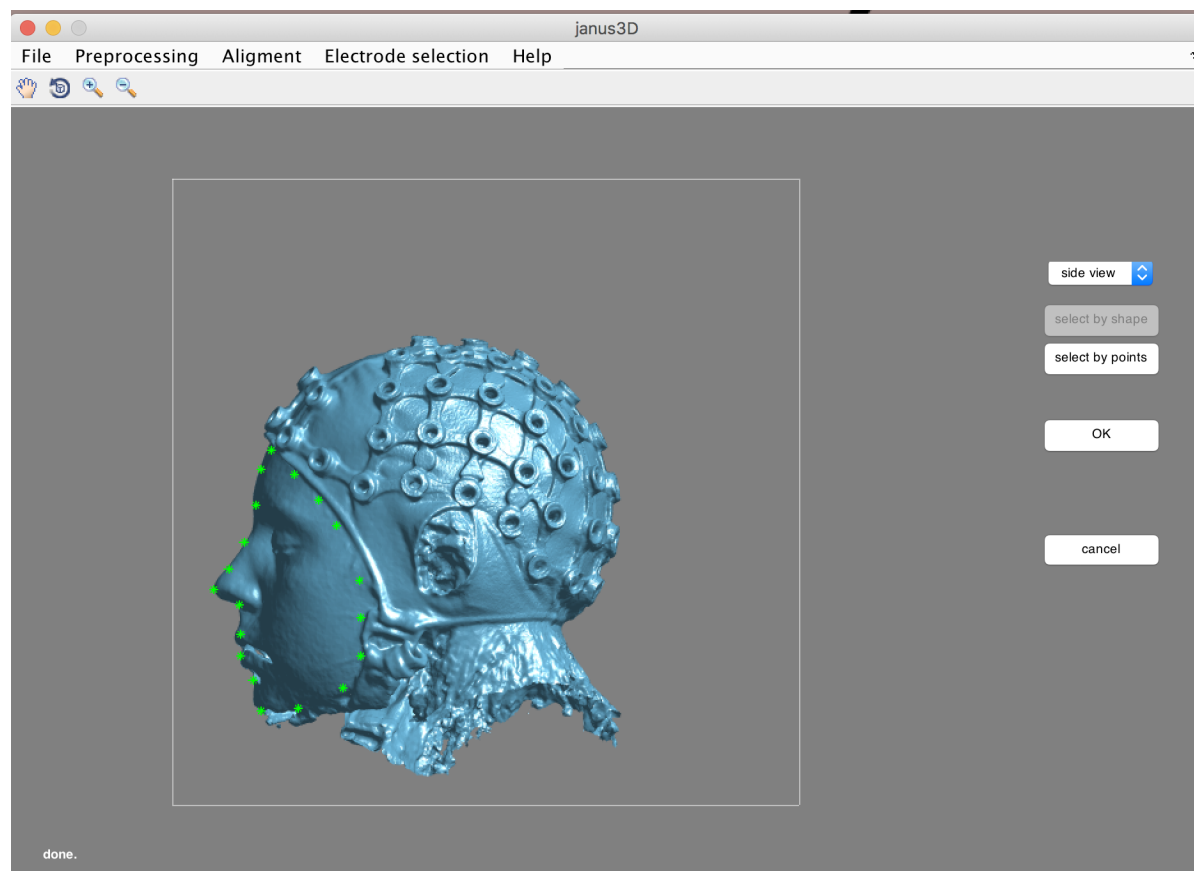

Figure 37. De-facing model in janus3D
- Next you need to select the “de-face” option in janus3D. We are not actually defacing (only the setting is labeled that way), but selecting the face of the subject in the 3D model and the MRI scan to later align the models. Therefore start with the 3D model by clicking “Preprocessing”, “Model”, “de-face”. Now click “select by points” and left click on every point you’d like to select around the face (Figure 37). Press “select by points” again when done. Then press OK.